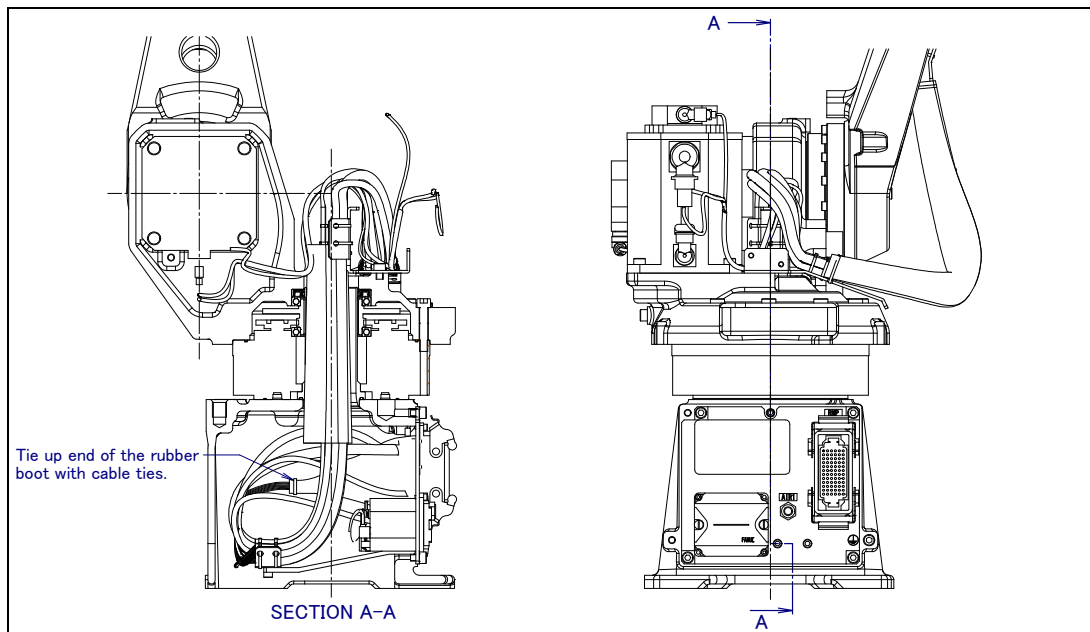

Fig. 8.3 (l) Replacing cable kit (J1 connector plate part 2)
- 34 Do 16 to 22 in reversed sequence. In this time, do not put it into the state to hang the cable of J4 connector plate. The cable might be hurt. (See Fig. 8.3 (g))